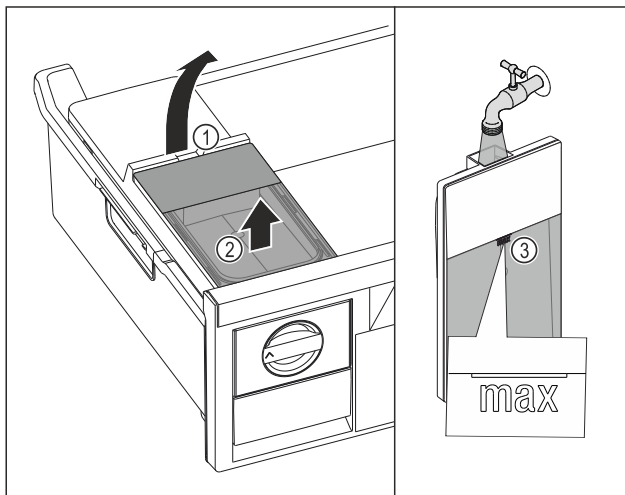

Fig. 121
- Lift the water tank at the recess Fig. 121 (1).
- Remove the water tank by lifting it upwards. Fig. 121 (2)
- Fill the water tank with drinking water up to the mark Fig. 121 (3).